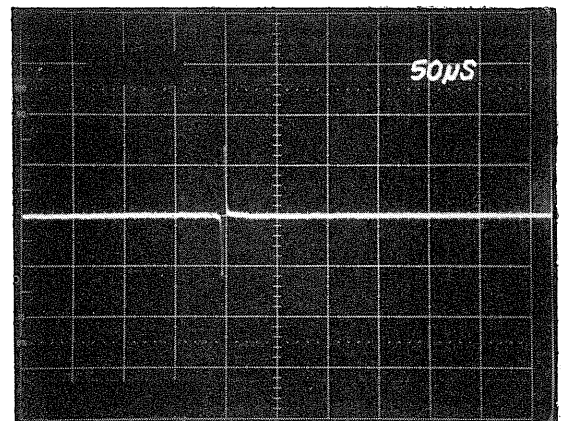

FIGURE 5 INDEX TIMING
- e. Observe the timing between the start of the sweep and the first data pulse. This should be  $200 \pm 100 \mu$ sec. If the timing is not within tolerance, continue on with the adjustment. Reference Figure 5.